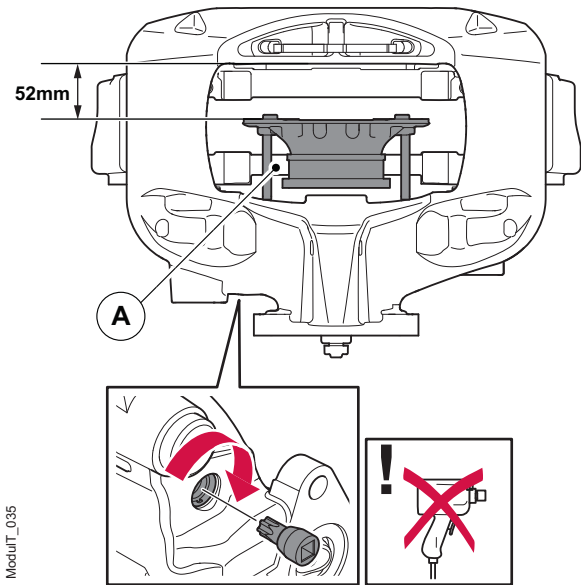

Figure 42. Extract the thrust plate
- Using Haldex special tool P/N 95232 (Torx 55), manually turn the reset shaft clockwise to extract the thrust plate (A). Continue extracting until the thrust plate unscrews fully and becomes detached from the adjustment screw, see figure 42.